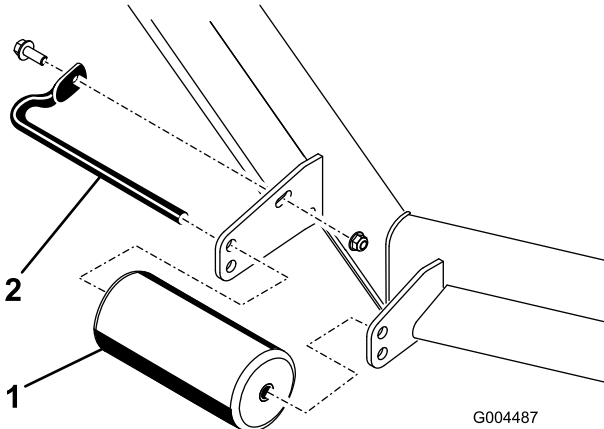

Figure 20
4. Remove the fasteners securing each roller on your mower deck and move the rollers up or down as desired; refer to Figure 20 through Figure 24 as applicable for your mower.